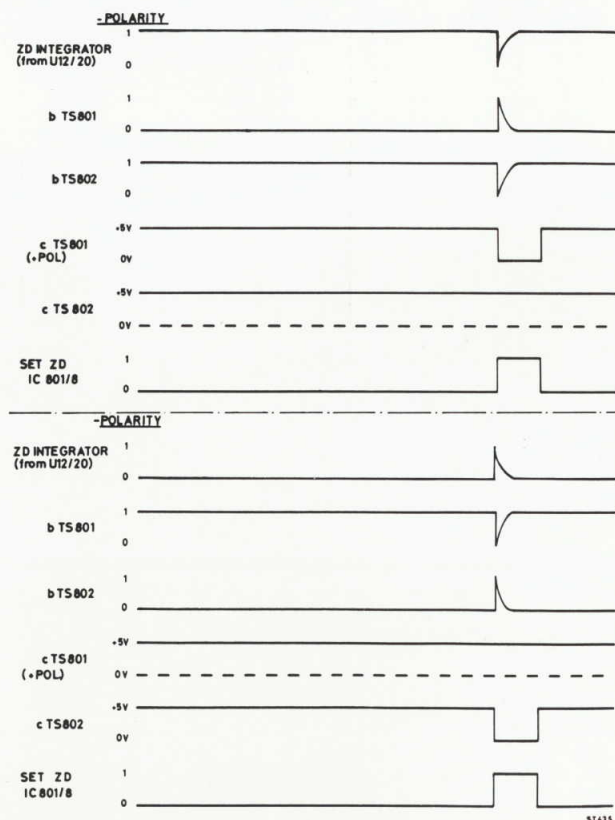

Fig. 26. Polarity determination
Via pulse transformer T802 the zero detect from the integrator (ZD INT.) is supplied to PROGRAM unit U6, and determines the polarity information and "ZERO DETECT" (ZD) (see pulse diagram Fig. 26).